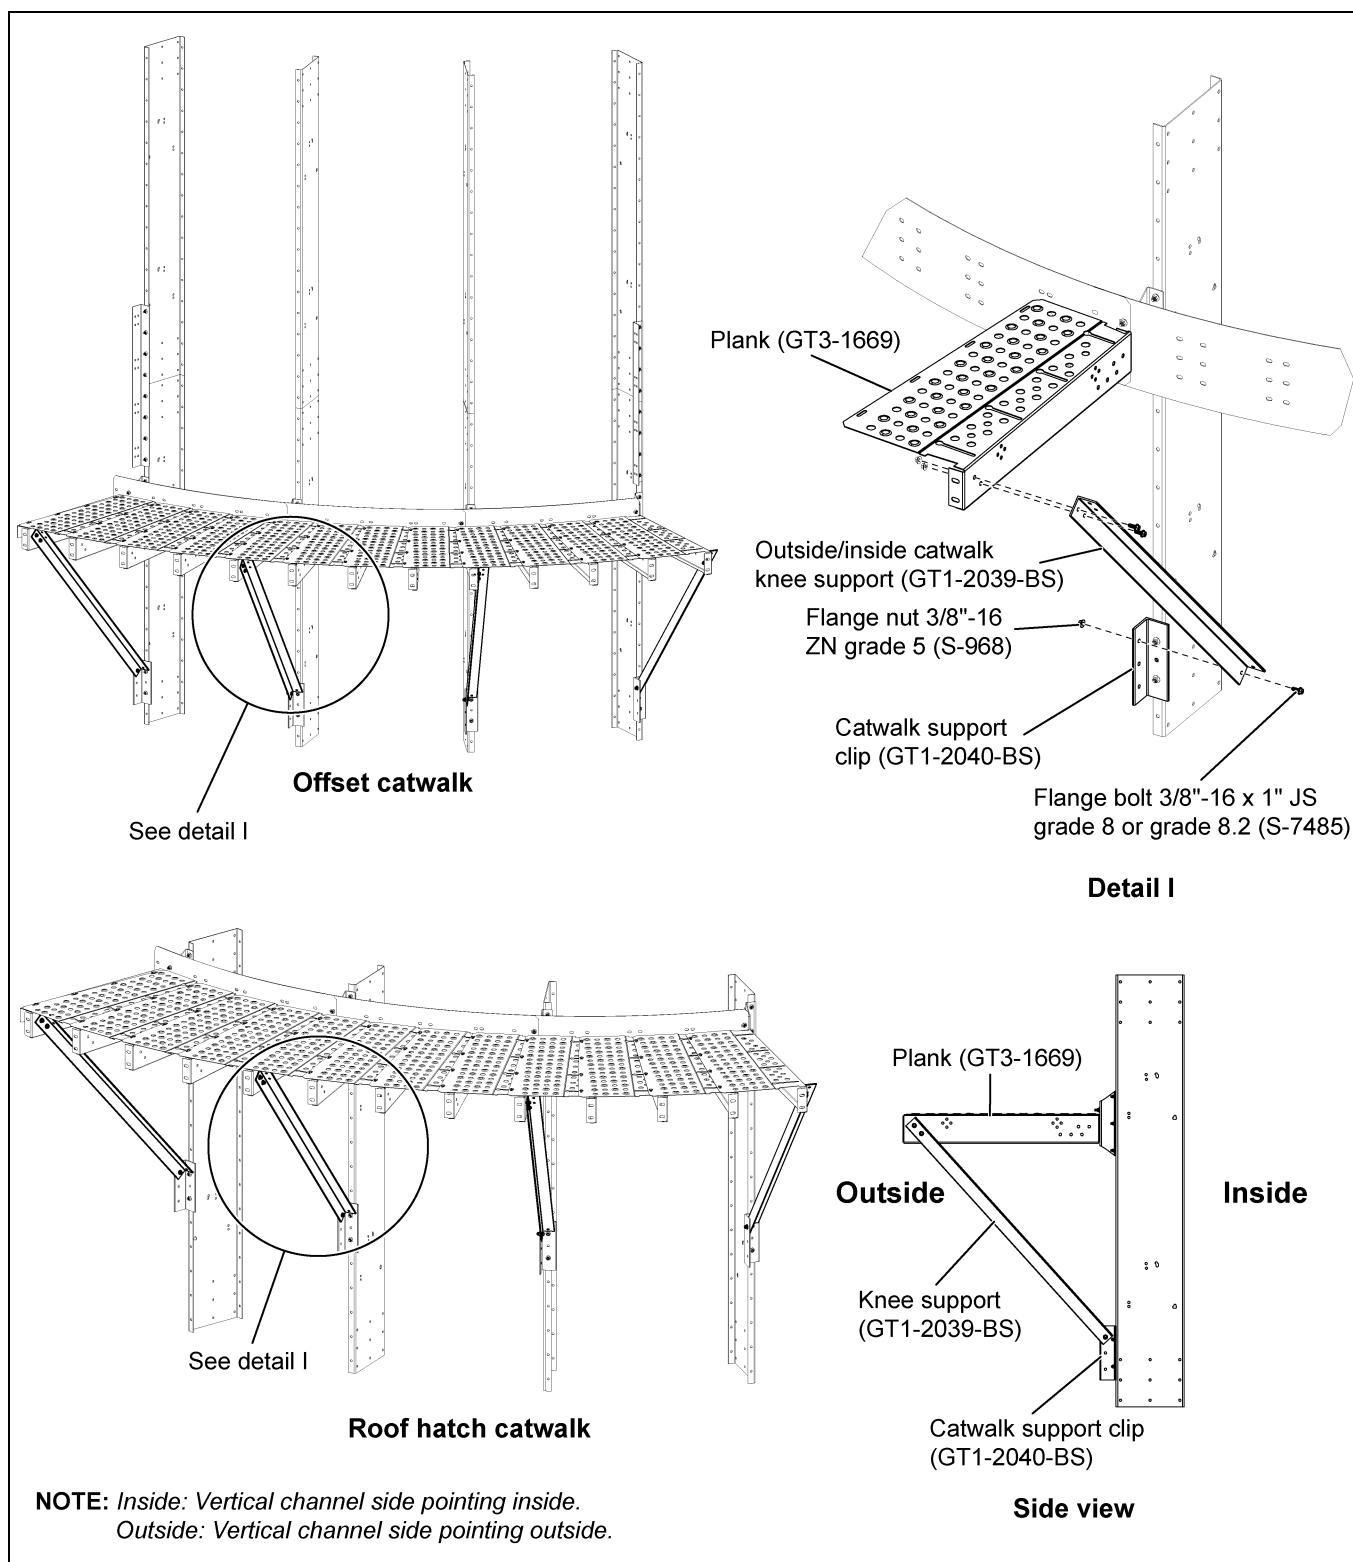

**Figure 6R** Plank Support (GT1-2086) Installation for Offset and Roof Hatch Catwalks
1. Once the planks are installed, install the plank support (GT1-2086) at the catwalk closing end using 5/16"-18 x 3/4" JS grade 8 or grade 8.2 bolts (S-10267) and 5/16"-18 JS grade 5 nuts (S-10268) and to the toe board (GT1-2657) using 3/8"-16 x 1" JS grade 8 or grade 8.2 bolts (S-7485) and 3/8"-16 ZN grade 5 nuts (S-968). (See Figure 6R.)